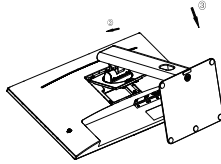

Figure 2
① 将底座插入支撑，锁附2颗M4*16螺丝。
② 将整个底座沿着箭头方向对着孔位插入机壳：然后顺箭头向下压。
③ 将底座沿前大方向倾斜拿出。
- ① Connect the base and stand with the screws in the base.
② Align the two hooks on the base with the two holes on the machine, tilt them in the direction of the arrow and install them into the machine hole position, as shown in the Figure 2.
③ Press down in the direction of the arrow.